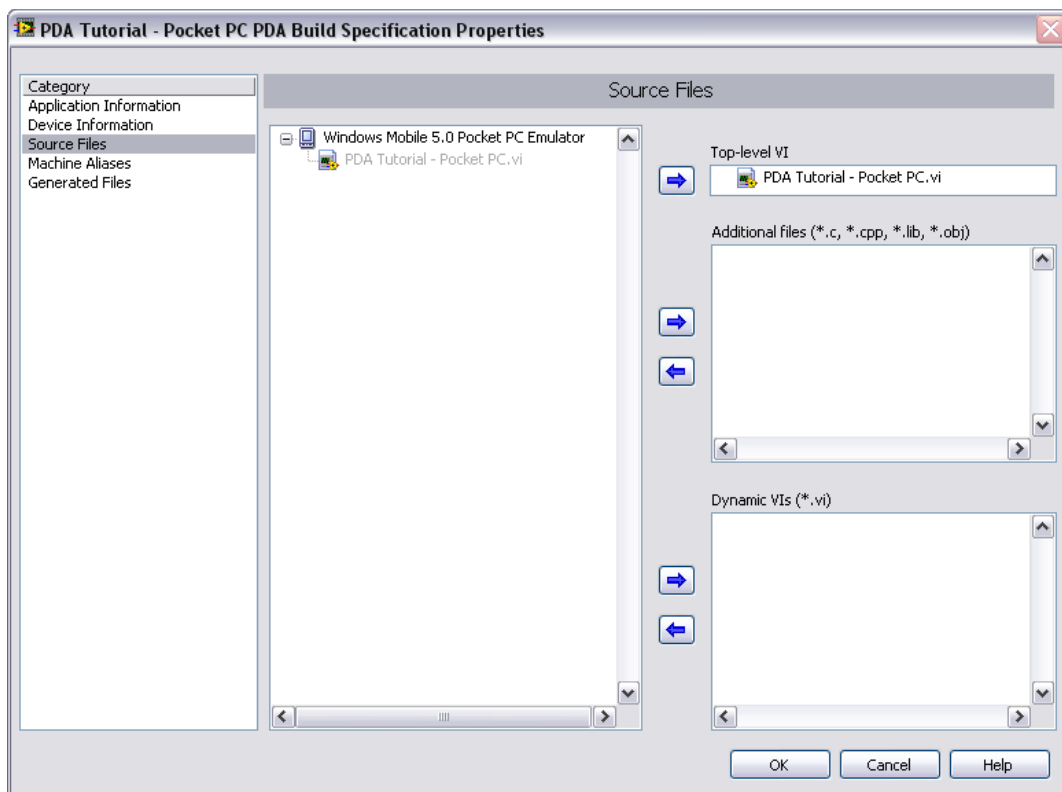

Figure 5. Selecting the Source Files
4. Select the **Source Files** category to select the source files to include when you build the PDA VI into a PDA application. When you use the PDA Project Wizard to create a build specification, LabVIEW automatically uses the VI you import as the top-level VI. When you create build specifications outside of the wizard, you must manually select the top-level VI and click the blue arrow button, shown at left, to move the VI to the **Top-level VI** text box as shown in Figure 5. PDA applications can have only one top-level VI.